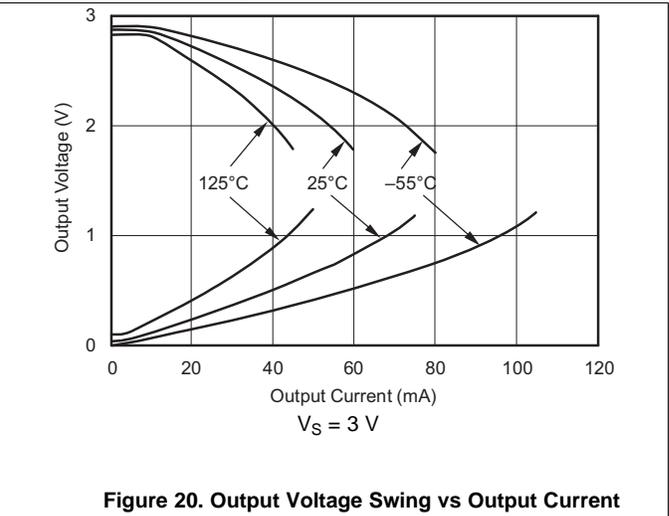
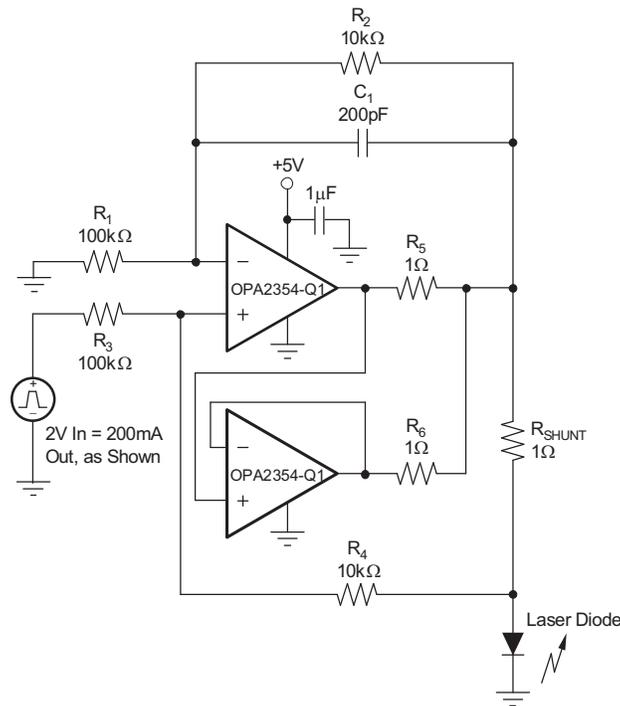

Figure 20. Output Voltage Swing vs Output Current
Figure 31. Parallel Operation
(1) See typical characteristic graph *Output Voltage Swing vs Output Current* (Figure 20).
(2) Not production tested
The device uses a class-AB output stage with common-source transistors to achieve rail-to-rail output. For high-impedance loads ($> 200\ \Omega$), the output voltage swing is typically 100 mV from the supply rails. With 10- Ω loads, a user can achieve a useful output swing while maintaining high open-loop gain; see Figure 20 \(Output Voltage Swing vs Output Current\).
For maximum reliability, TI does not recommend running a continuous DC current greater than $\pm 100\text{ mA}$; see Figure 20 \(Output Voltage Swing vs Output Current\). Operate the OPAx354-Q1 family of devices in parallel to supply continuous output currents greater than $\pm 100\text{ mA}$, as shown in Figure 31.